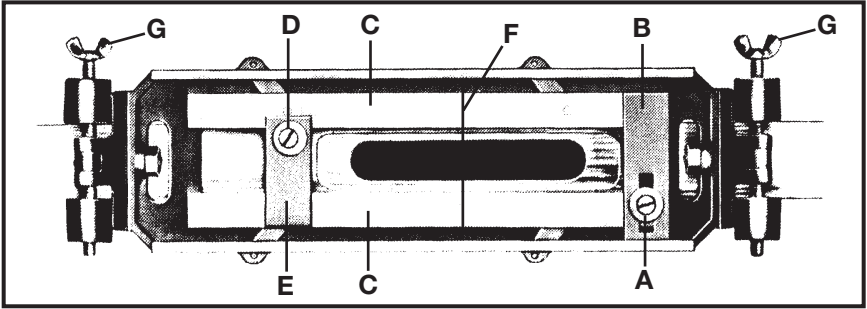

Fig. 12
1. Loosen locking screw (A), Fig. 12.
2. Adjust side guides (C), Fig. 12, so the space between them is $\frac{1}{8}$ " (3.2 mm) wider than the lock face.
3. Firmly tighten screw (A).
4. Loosen locking screw (D), Fig. 12.
5. Adjust guide bar (E), Fig. 12, distance between (E) and (B) is $\frac{1}{8}$ " (3.2 mm) longer than the lock face.
6. Firmly tighten screw (D).
2. Draw line (F), Fig. 12, on the templet side guides (C), midway between bars (B) and (E).
3. Position templet on door so line (F) on templet matches line drawn on the door edge at the center of the mortise cut.
4. Tighten the two wing screws (G), Fig. 12 to lock templet in place.